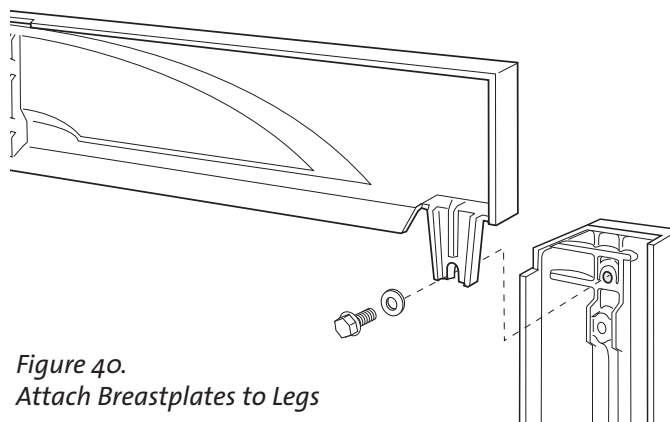

Figure 40.
- 3 Attach the left and right leg sections to the breastplate assembly using a bolt and washer on each side. See fig. 40.